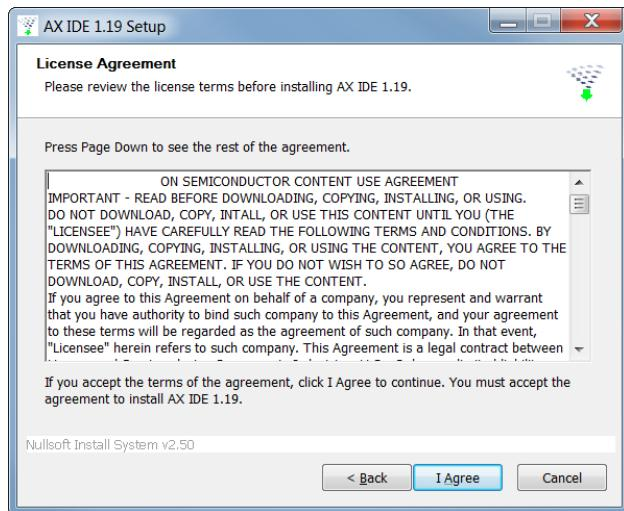

Figure 9. License Agreement
- The first time AxCode::Block starts, it scans for installed compilers and presents a list of the compilers found. Select *GNU GCC Compiler for ARM* as default, see Figure 9: *GNU GCC compiler for ARM*.